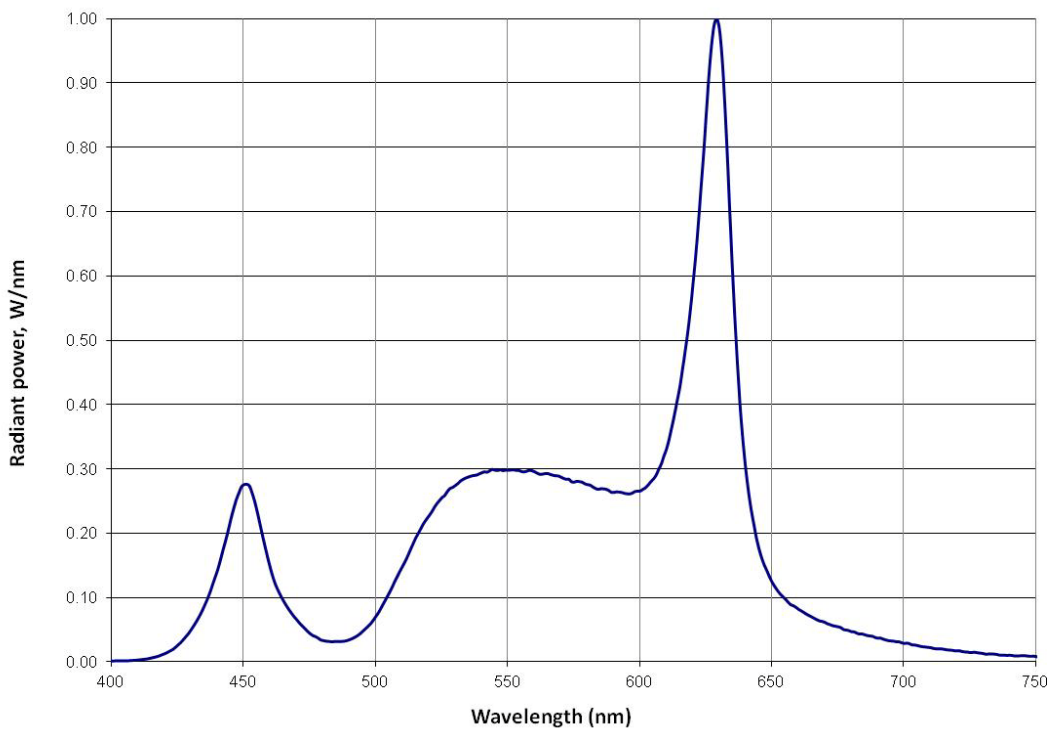

Figure 5: Typical relative spectral power vs. wavelength.
- Solder conditions per JEDEC 020D. See Reflow Soldering Profile Figure 5.